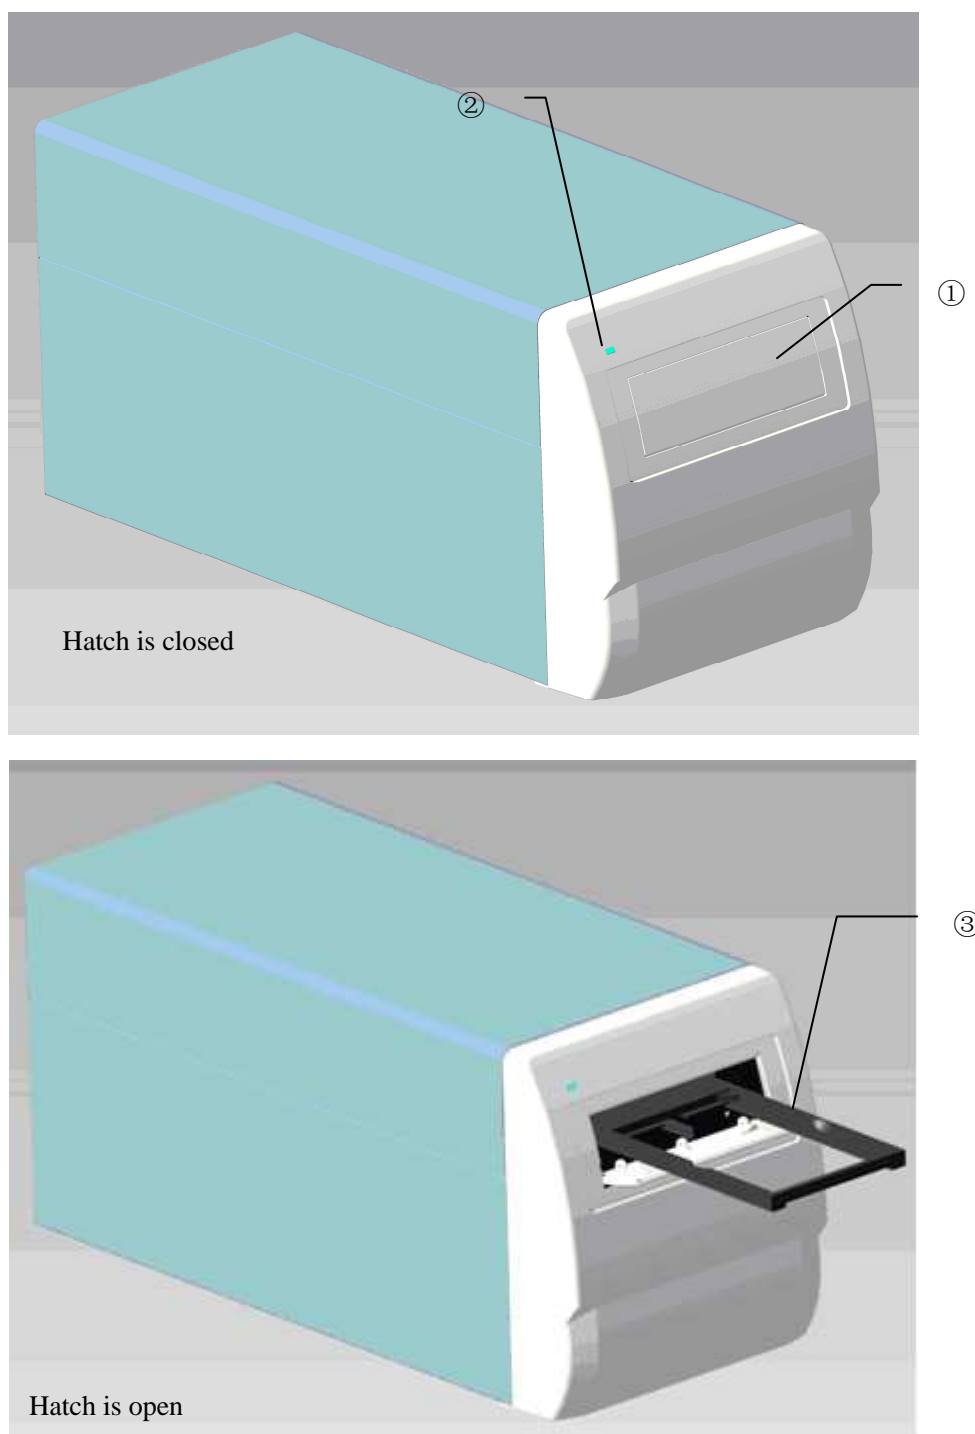

Figure 1-1 Front view
- Hatch window: it can prevent dust and background miscellaneous light entering into the microplate or the instrument inside, when opening, the tray will be ejected, and then you may place in or take out the microplate (as shown in Figure 1-1).